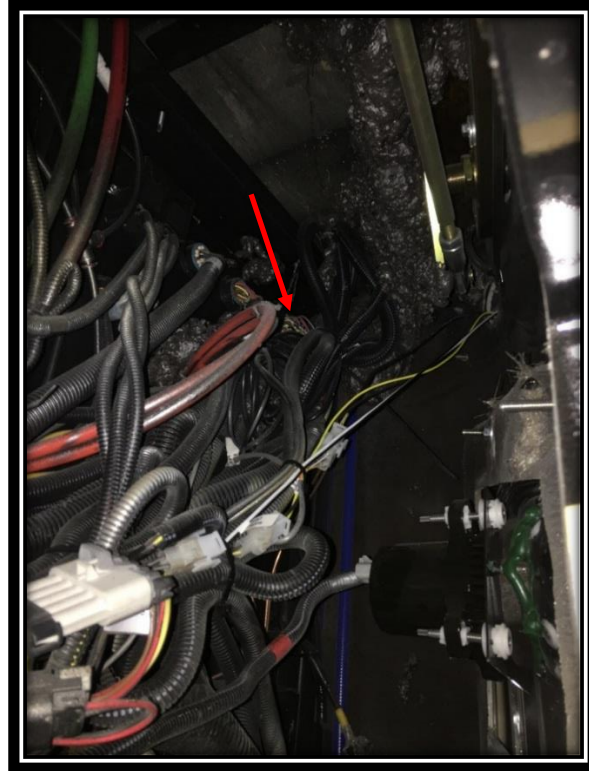

FIG. 3-1
6. Locate 102-way connector on bulkhead, looking rearward it will be behind cap, to right of slide out opening and rather high up. Refer to FIG. 2-2 and FIG. 3-1